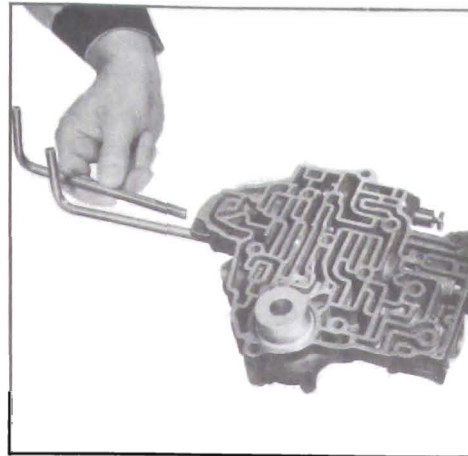

Figure 5-743
2. Install governor pipes into assembly. See Figure 5-743.